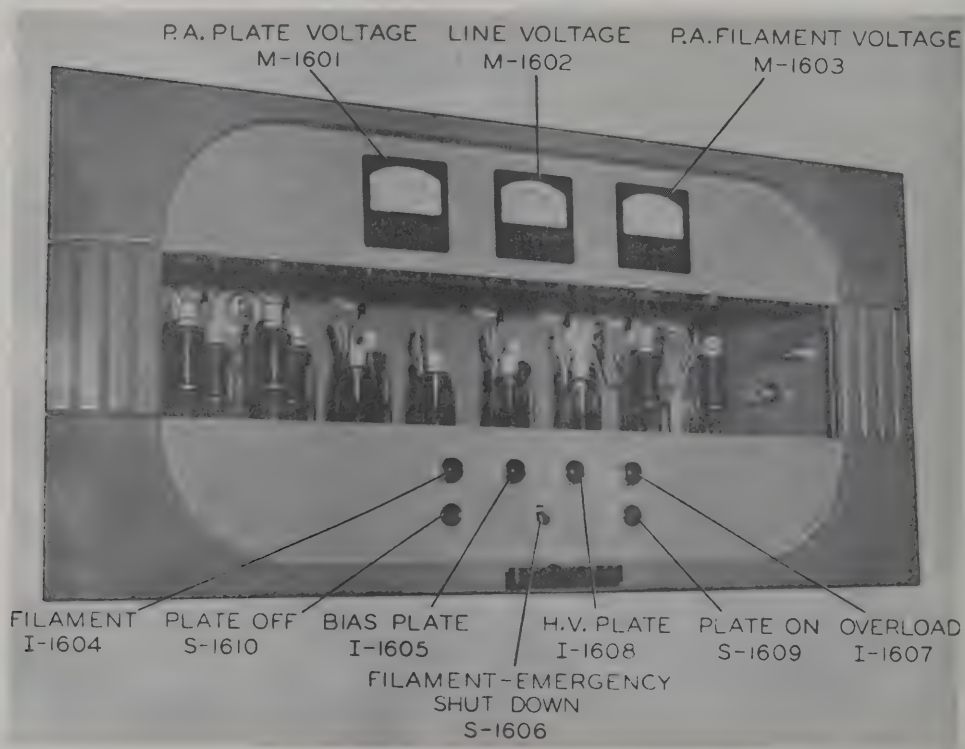

Figure 37. Upper Control Panel, Power Supply Assembly PP-1089/FRT-22 Controls.
*b. Power Supply Assembly PP-1089/FRT-22 (figs. 37 and 38).*